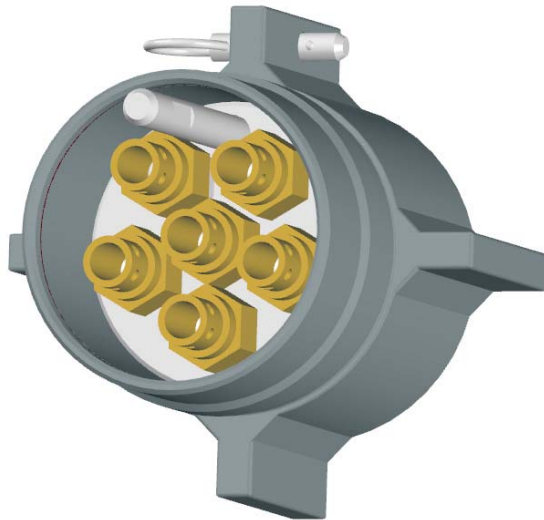
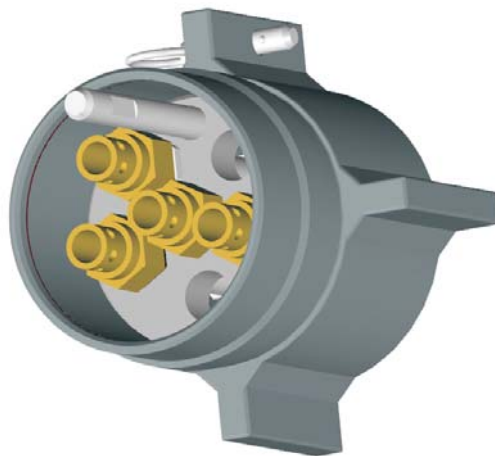

Figure 4-12. Six-Function Manifold Plug Assembly
Figure 4-13. Four-Function Manifold Plug Assembly
Prior to deploying the BOP stack subsea, it is very important that the manifold plug assemblies (P/N 20072479 and 20072478) be installed in all NXT preventer door manifolds on the lower BOP stack (see Figure 4-12 and Figure 4-13 on page 4-26). Failure to heed this caution will allow seawater to contaminate the door operator hydraulic circuit and also may trap high pressure, making it extremely difficult to install the door opener control panel umbilical into the 18-15M NXT preventer door manifold.
Door manifold plug assembly (P/N 20072479) is a six-function unit and is used to plug the NXT door manifold with UltraLock II (B) operators (see Figure 4-12). The location of the connector manifold is on the front of the UltraLock II (B) door.
Door manifold plug assembly (P/N 20072478) is a four-function unit and is used to plug the NXT door manifold with PosLock 22" operators (see Figure 4-13). The location of the connector manifold is on the body of the preventer.